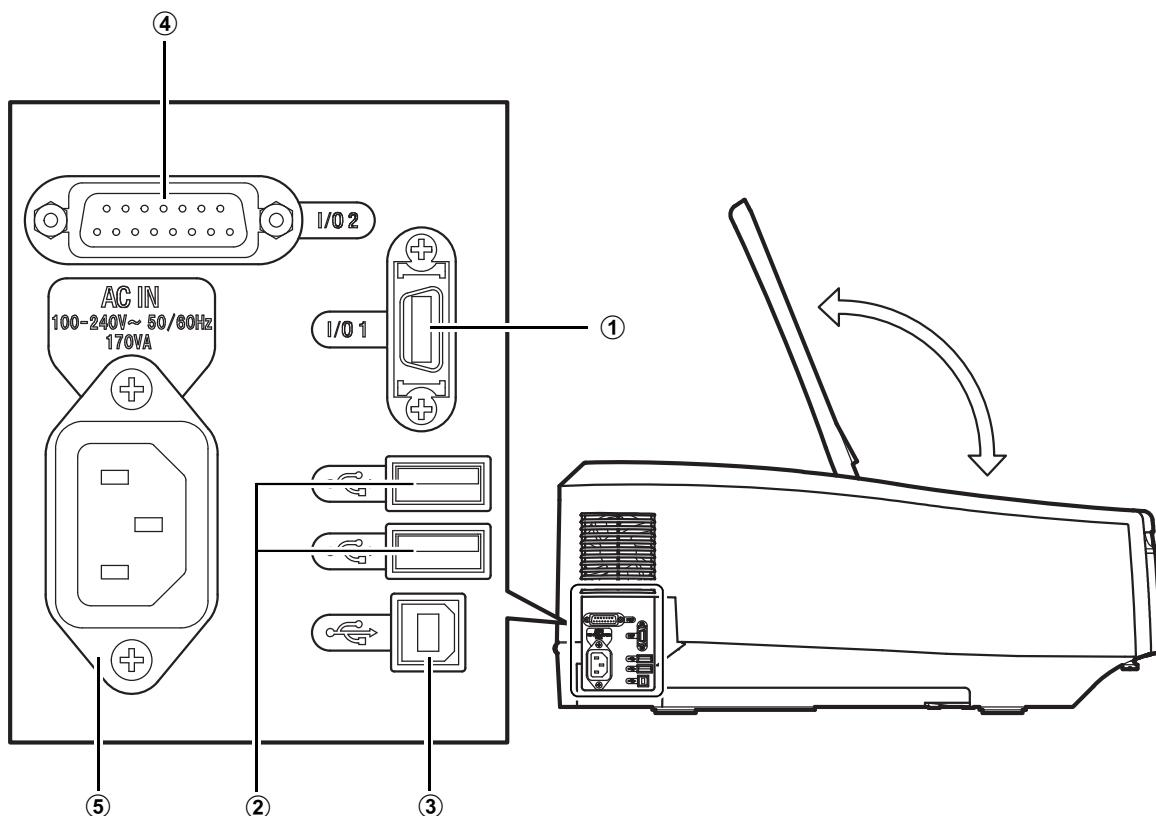

Fig.1-3 UV-2600i/2700i Left Side View
- 1 Connect the standard accessory AC power cord to the power supply connector (Fig.1-3) on the left-hand side of the spectrophotometer.